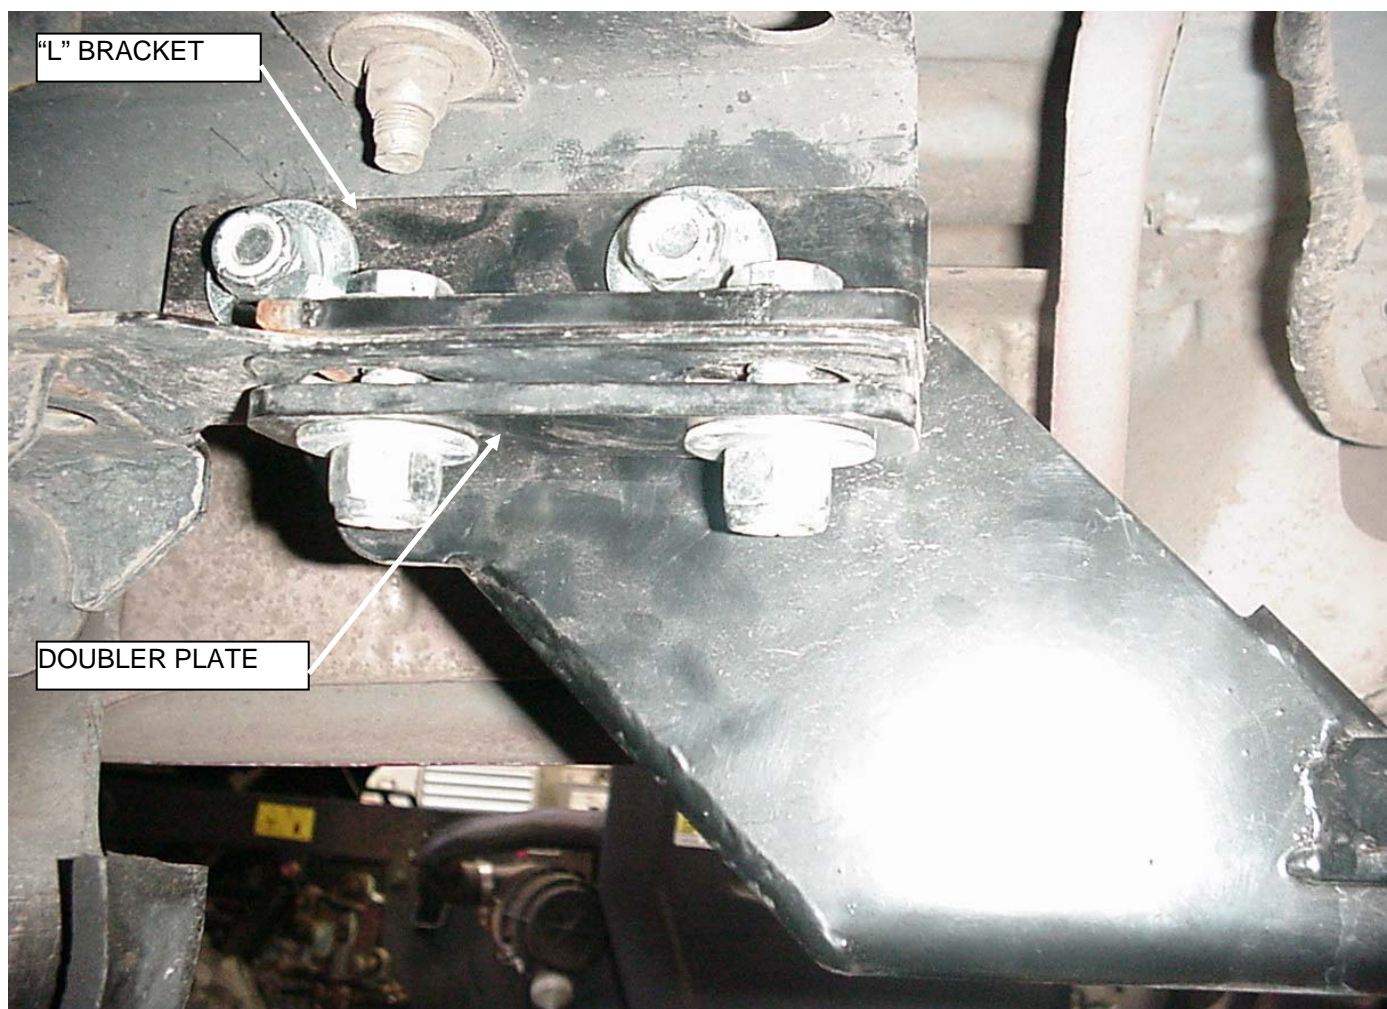

Figure 4, Installation of frame bracket, “L” bracket, and doubler plate to frame.
- Carefully install the rear bumper and frame bracket to the vehicle frame using the existing mounting holes in the frame. **See figure 4.** The supplied “L” brackets are left and right specific. Insert the “L” brackets inside the frame rails and insert the supplied ½” bolts with flat washers through the bumper bracket, hitch side plate (if applicable), vehicle frame and “L” bracket. Install a flat washer and ½” lock nut onto each bolt. Insert a ½” bolt and flat washer through the “L” bracket, bottom of the frame and doubler plate. Install a flat washer and ½” lock nut onto each bolt.